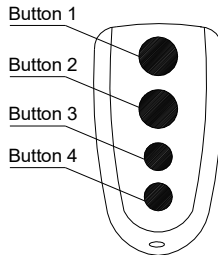

Fig.12 Remote transmitter
- The remote control works in a single channel mode. It has four buttons. See Fig.12 Remote transmitter. The function of button 1, button 2 、 button3 are the same and button 4 is pedestrian mode. With each press of the remote control button (1, 2 and 3) which has been programmed, the gate will close, stop, open or stop cycle. Remote Pedestrian button: After you learn the button 4, you press the remote button 4 the door will open 1 meter when the door is closed.